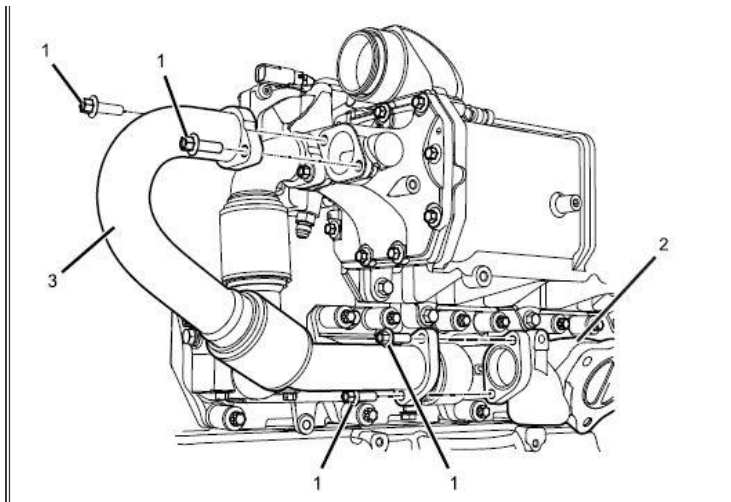

Figure 2: Outboard EGR Inlet Tube
8. Remove outboard EGR inlet tube and two gaskets (**Figure 2**, Item 3). Discard gaskets and bolts (**Figure 2**, Item 1).